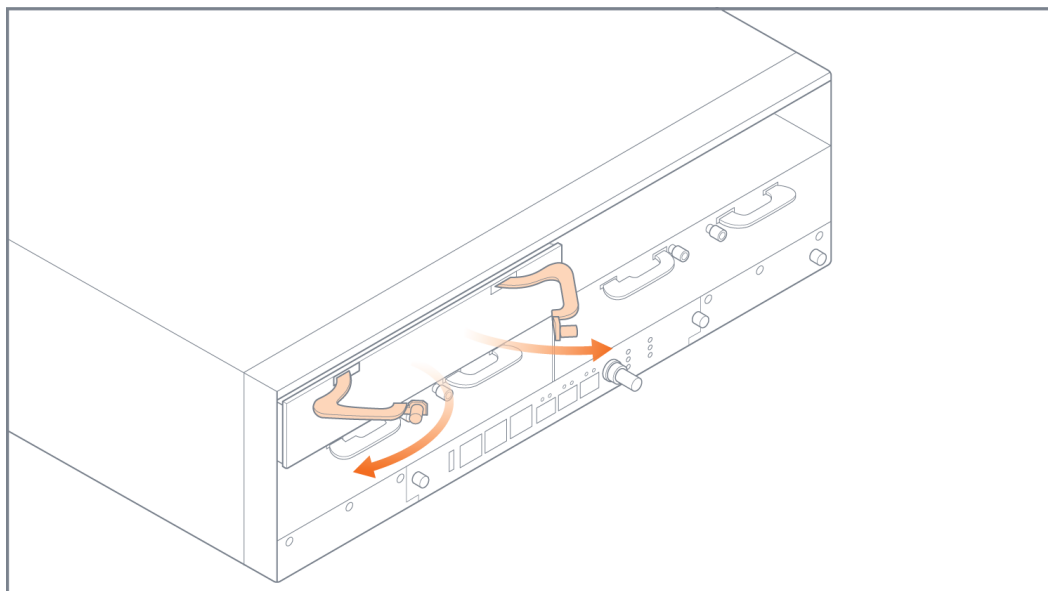

Figure 8 Filler Panel Levers
5. Open the levers on a filler panel as shown in Figure 8 Filler Panel Levers.